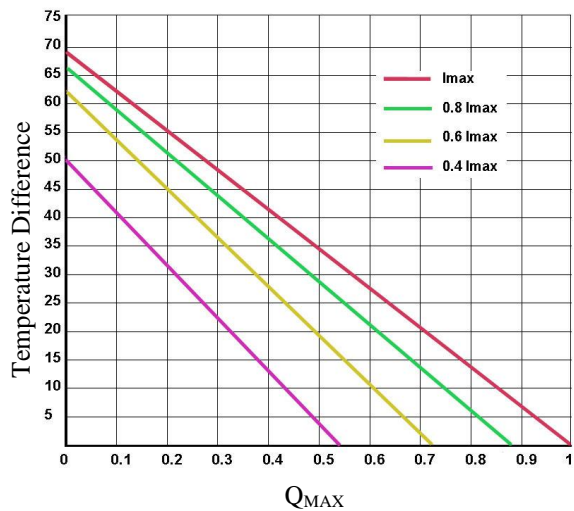
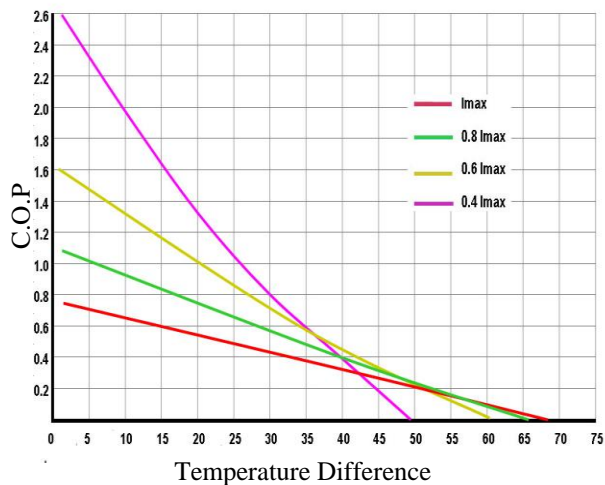

Figure 6. Temperature Difference vs. Q_{MAX}
Figure 9. C.O.P vs. Temperature Difference
5. Use the charts provided in Figure 2 to Figure 5 and Figure 6 to Figure 9, to decide which TEC to use, what is the heat needed to be dumped through the heat sink, what is the heat sink temperature, etc.